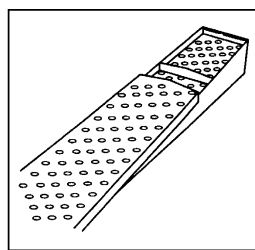

Figure 5
5. Install cover by sliding it on the small end. (See **Figure 5.**)